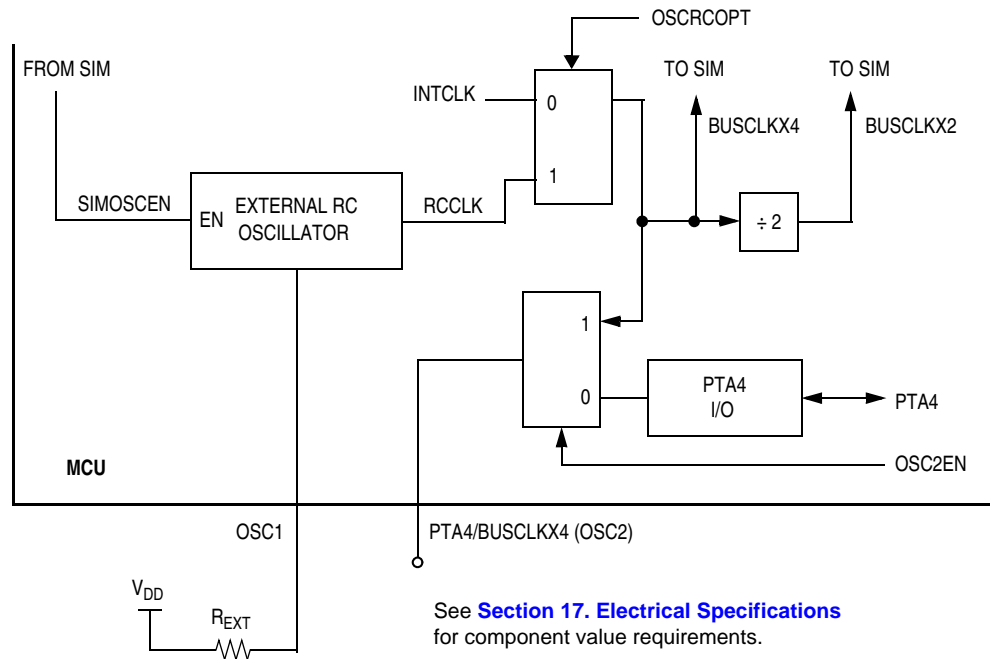

Figure 11-3. RC Oscillator External Connections
**Figure 11-3** shows how BUSCLKX4 is derived from INTCLK and, like the RC oscillator, OSC2 can output BUSCLKX4 by setting OSC2EN in PTAPUE register. See **Section 13. Input/Output (I/O) Ports**.
RCCLK is the RC oscillator output signal. Its frequency is directly proportional to the time constant of external R and internal C. Figure 11-3 shows only the logical relation of RCCLK to OSC1 and may not represent the actual circuitry.